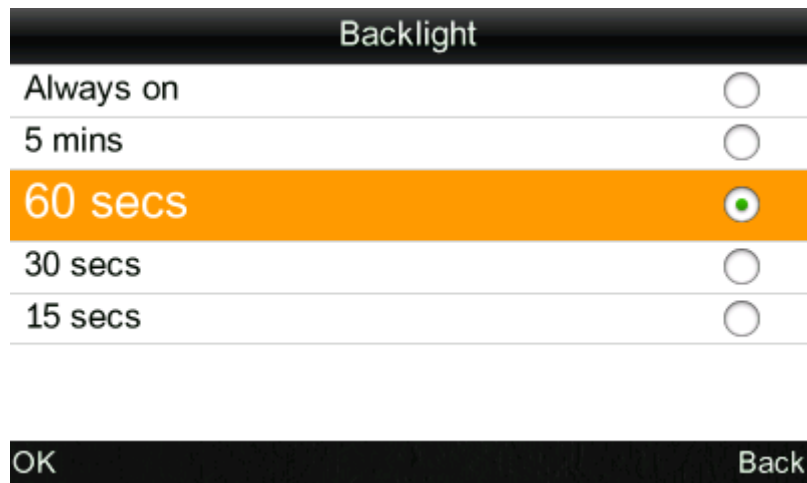

Figure 53 Backlight Time Setting Interface
- e) Select “Settings” - “Backlight Time” to enter an interface shown in Figure 53. When the instrument is in idle state, you can set the backlight time to save electricity consumption.